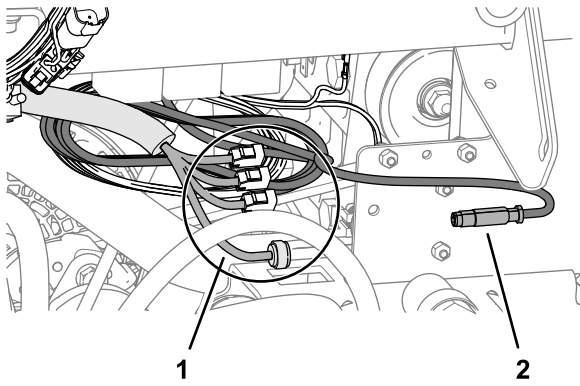

Figure 183
4. Align the 4-pin connector labeled ETHERNET CL-55 of the modem data harness near the 4 connectors for the modem-antenna harness as shown in Figure 183.